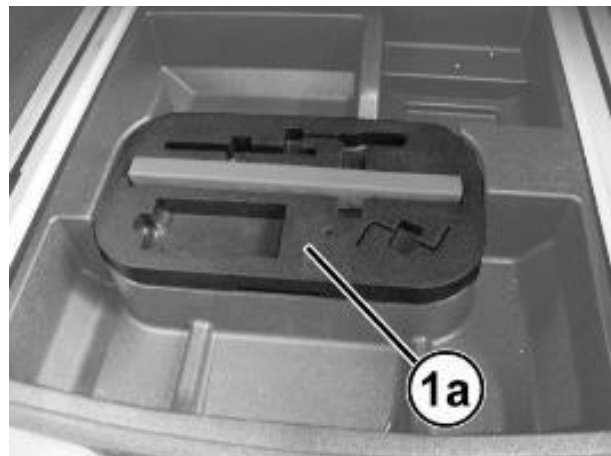

Figure 81 – Battery Cover
7. Remove the battery cover (1a). (Figure 81).